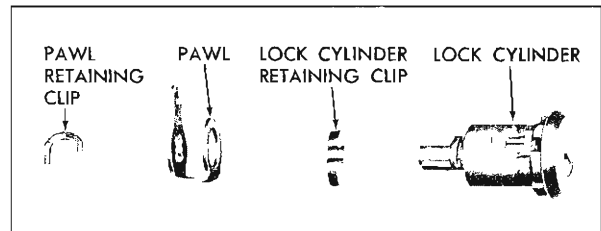

Fig. 3-19 Front Door Lock Cylinder
2. Remove pawl retaining clip, pawl and lock cylinder retaining clip (Figure 3-19).